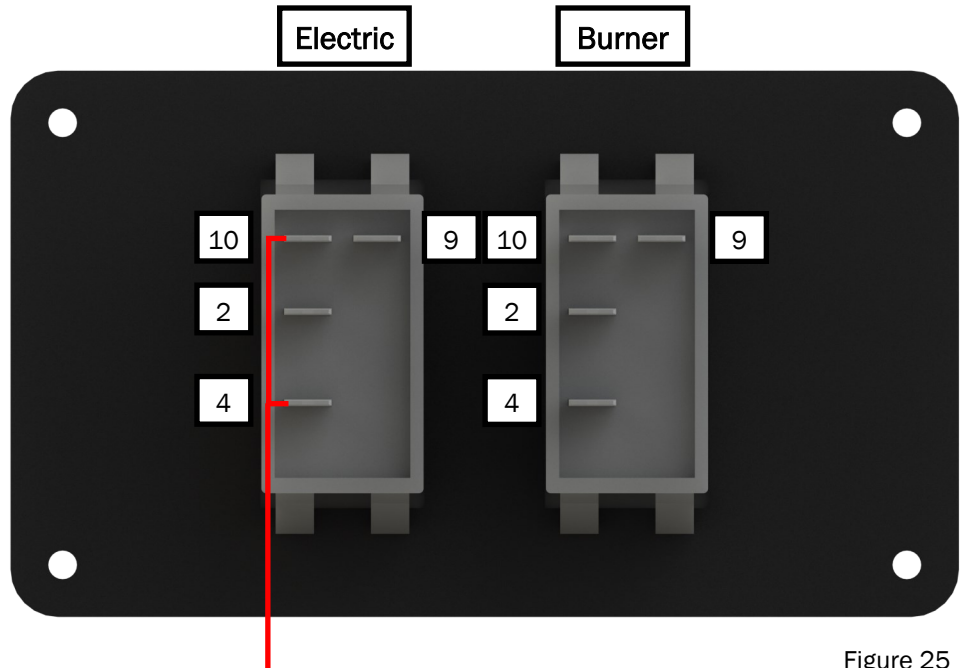

Figure 25
NOTE: Be sure to attach "Jumper Wires" where necessary. Reference figure 25 and 26.
3. Connect all switch wires to the appropriate switch connections as illustrated in figure 25 and figure. 26 Reference Appendices A, B, and C for additional wiring information.